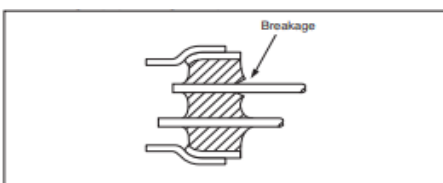

Figure 3
(1) DO NOT pull the lead excessively if unbending a lead or removing a crystal unit. The excessive force may crack the glass and reduce the degree of vacuum. This may eventually result in deterioration of the characteristics and may also break the crystal chip (see Figure 3).